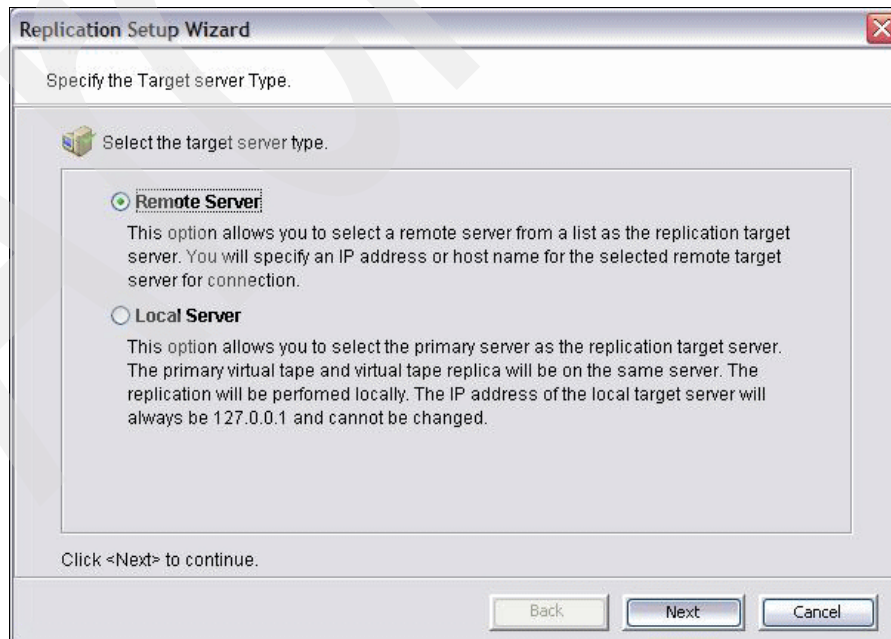

Figure 7-11 Specify Remote Server
3. Select **Remote Server** on the Specify Target server Type window (Figure 7-11).